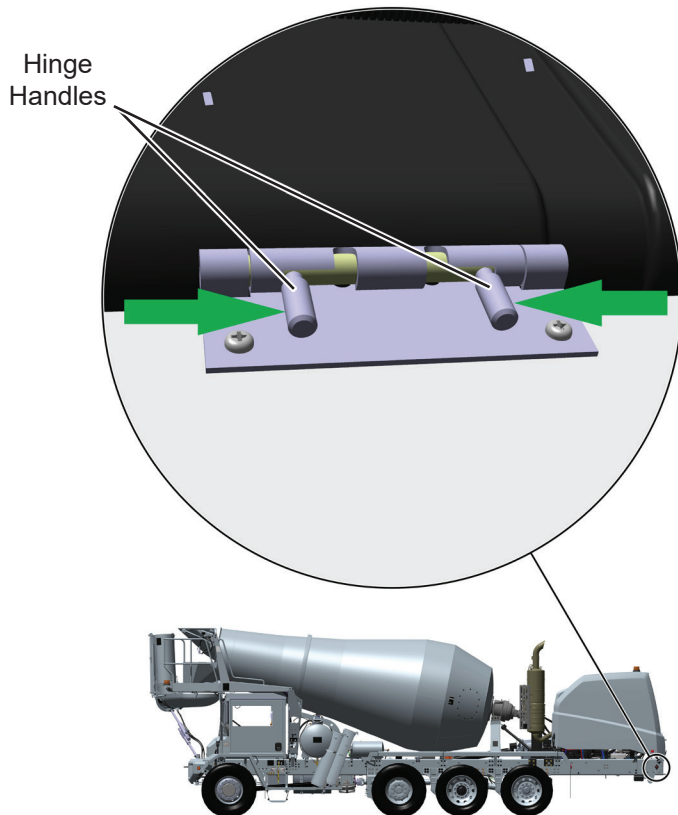

Figure 1. Battery Box Cover Hinge
4. Remove battery box cover by squeezing cover hinge handles inward and up to separate hinges. See Figure 1. Set cover aside.